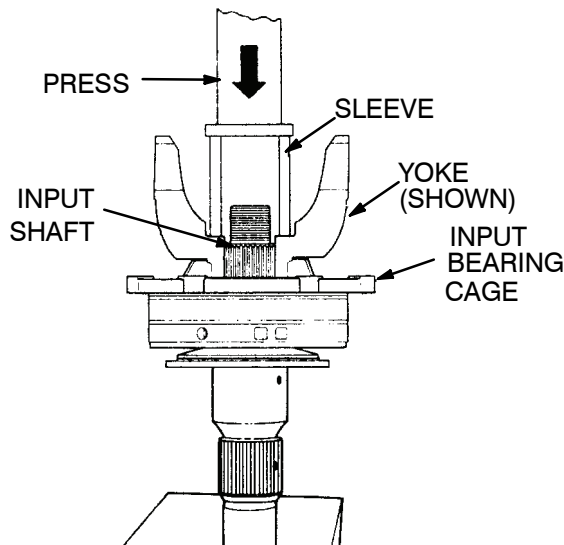

Figure 89.
- (6) Use a press and a sleeve to install the yoke on the input shaft. Make sure that the splines inside the yoke are aligned with the splines on the input shaft. If a press and a sleeve are used, make sure that the input shaft is supported. Figure 89.